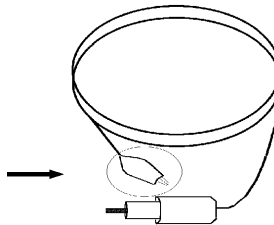

Figure 2-4
- ⚡ CAUTION** When the main unit is under test status, please don't touch alligator clipper on test cable. Because the insulation of plastic layer is not enough, touch it may cause hazard. As figure 2-4.